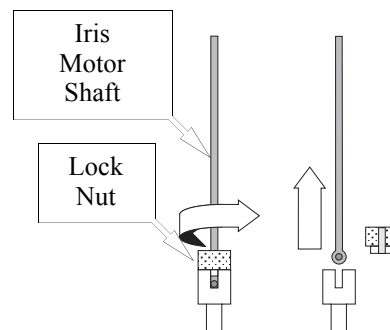

Figure 5-21 Disconnecting the iris motor shaft from the iris screw.
5. **Disconnect the iris motor shaft from the iris screw.** First unscrew the lock nut from the iris screw. Lift the shaft upwards to disconnect. Move the iris motor to the side where it is out of the way. (See Figure 5-21.)